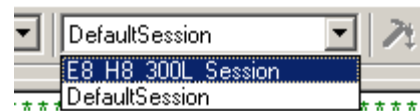

Figure 5: HEW Session Selection
- b.) Use the Session pull-down box and select “E8_H8_300L_Session” as shown in Figure 5. If requested to save the session, click <Yes>.